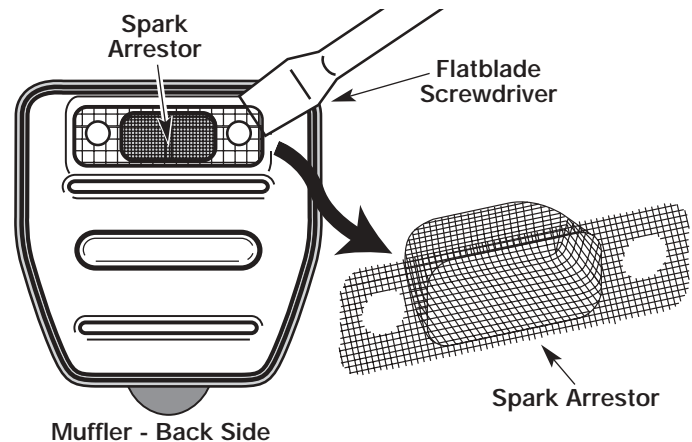

Fig. 23
4. Using a small flatblade screwdriver, carefully pry up the spark arrestor from the recessed hole (Fig. 23). Remove the spark arrestor from the muffler.
5. Clean the spark arrestor with a wire brush. Replace it if it is damaged or if it is impossible to clean thoroughly (Fig. 23).